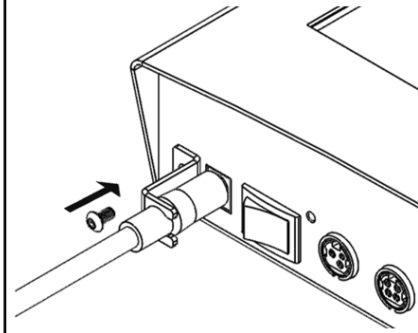

Figure 11
- Insert the male end of the power adapter cable supplied at the back of printer (refer to Figure 11).